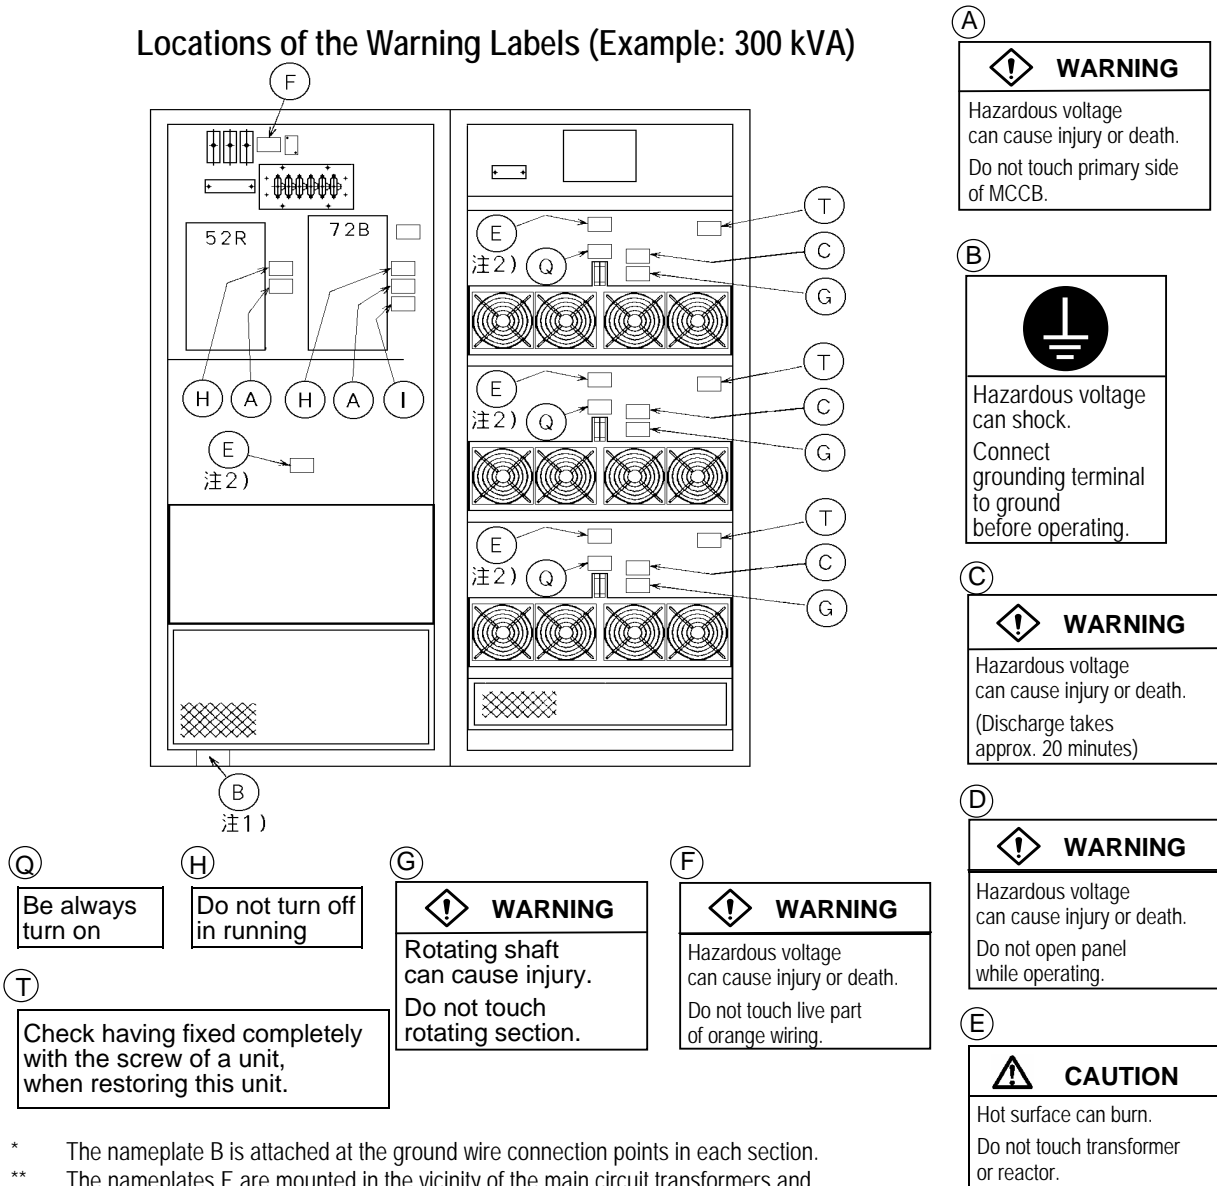

Figure 2.1 Unit Interior Front (with front panel open) and Warning Labels (Example)
- (1) The locations of the warning labels on the UPS are shown in Figure 2.1. Check to make sure that these warning labels are in place.
- (2) Read all warning labels and make sure you understand their meaning.
- (3) Make sure warning labels are always legible. Do not allow them to become smudged and do not remove or cover them up.